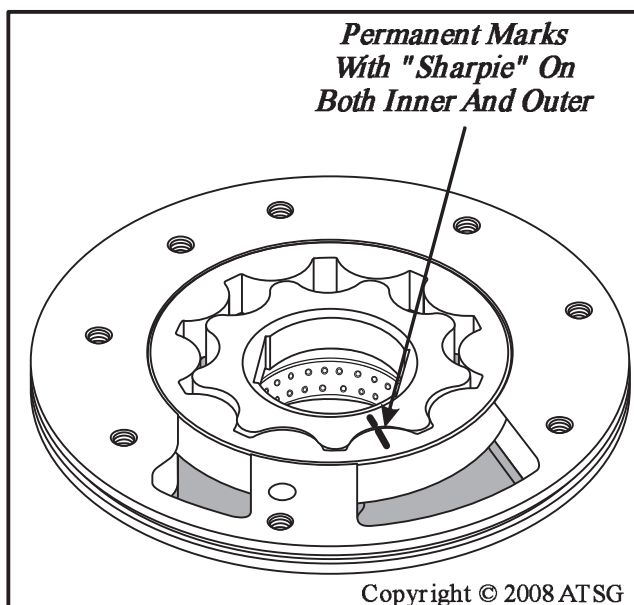

Figure 146
3. Mark the inner and outer gerotor with some type of a permanent marker, like a "Sharpie", **before removal** from the pump body, as shown in Figure 146, so that they can be re-installed with the same side facing up as original.
Note: "Do Not" scratch or dent them for identification (See Figure 146).